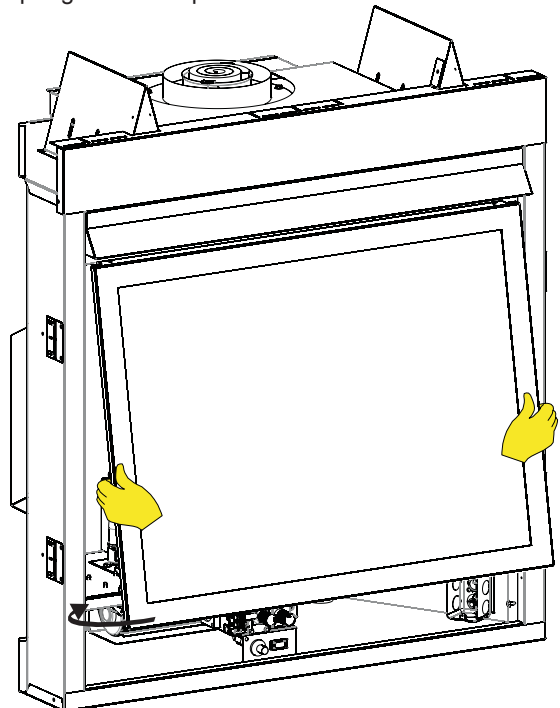

Figure 81
2. Gently lower the glass frame into place. **See Figure 81** for proper glass frame placement.
- Check all latches or other door retention components for proper operation, tension, and relief mechanisms are free from obstructions. **See Figures 81 and 82.**